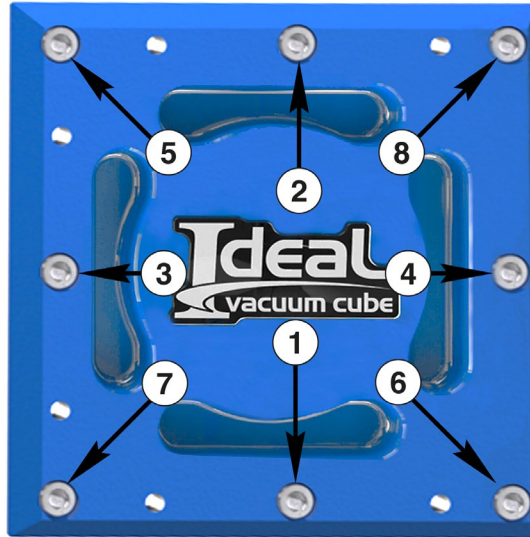

Figure 8 - 6x6 and 9x9 bolt tightening pattern
- Begin to tighten all the plate bolts gradually (about a 1/2 turn at a time). Use the tightening pattern shown in Figure 8, 9 or 10, corresponding to your plate size. Take several “passes” around the plate until all bolts are snug.